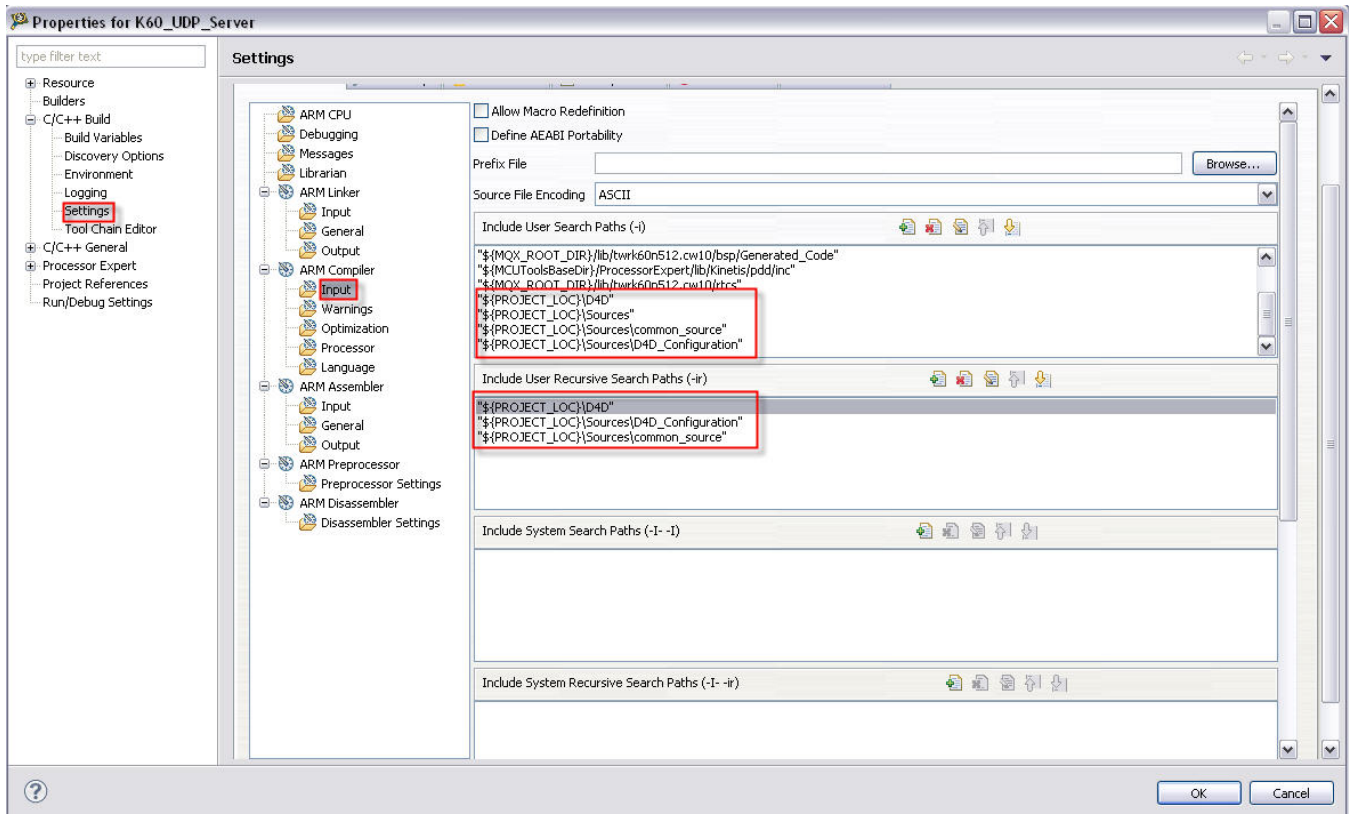

Figure A-4. User and recursive paths
4. Include the D4D library into the project by adding the below paths in the compiler settings (right-click and select Properties of the MQX RTCS Project). Figure A-4 shows the windows settings where the path must be added.